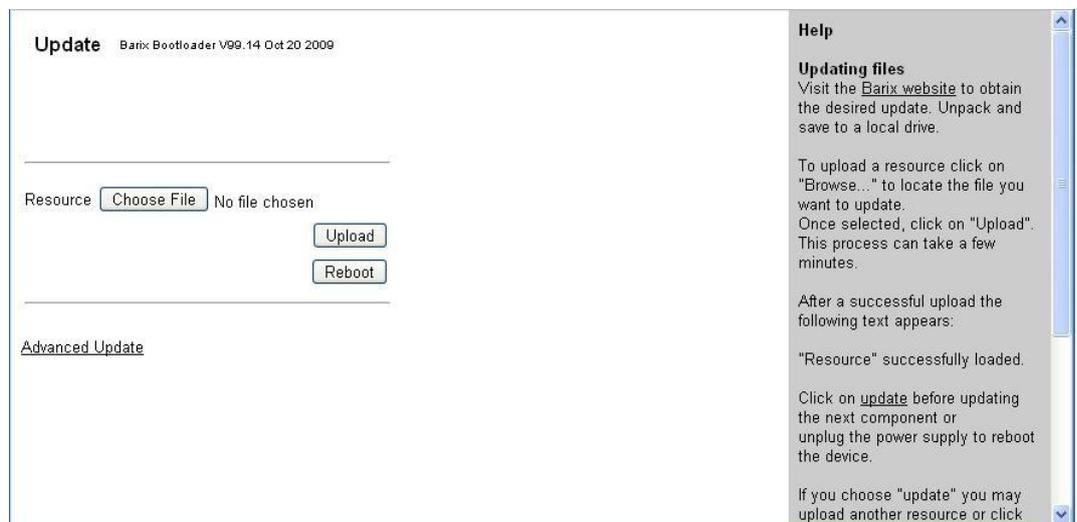

Figure 41. When the Barionet 50 restarts in Boot Loader mode, this Update screen appears.
6. When the boot loader process is started, an update screen appears (see Figure 41).
In the update screen (Figure 41) there is also a link to the "Advanced Update" page. This update process is very similar to the normal network update process described in the previous section except that it allows you to update individual firmware components and select the memory destination for the various components.